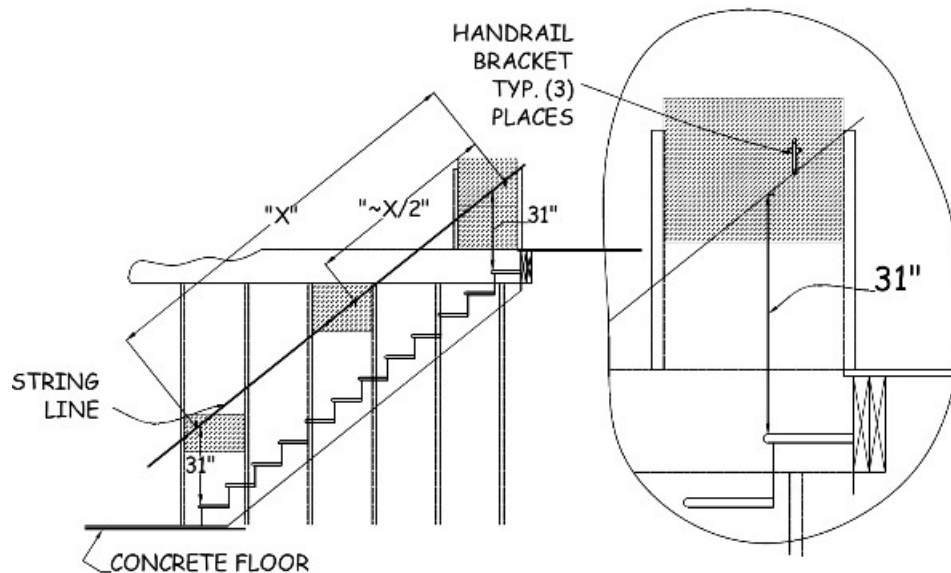

Figure 16-2. Handrail Bracket Installation.
4. Along this line, first mark the wall for locations of the top and bottom handrail brackets. Locate the top bracket 10-12” from the top end of the stairway wall and the bottom bracket 10-12” from the bottom end of the stairway wall, or from door trim if present (see Figure 16-2). Check for blocking or stud with an 8d or 2½” finish nail.
NOTE: Blocking has been installed for the handrail at the top, middle, and bottom of the stairs (see Section 10.6.5 and Figure 16-2).
angle of the template is correct, use it to mark for cutting. If not, use the adjustable bevel angle established above. This will establish Point 1 (see Figure 16-2).